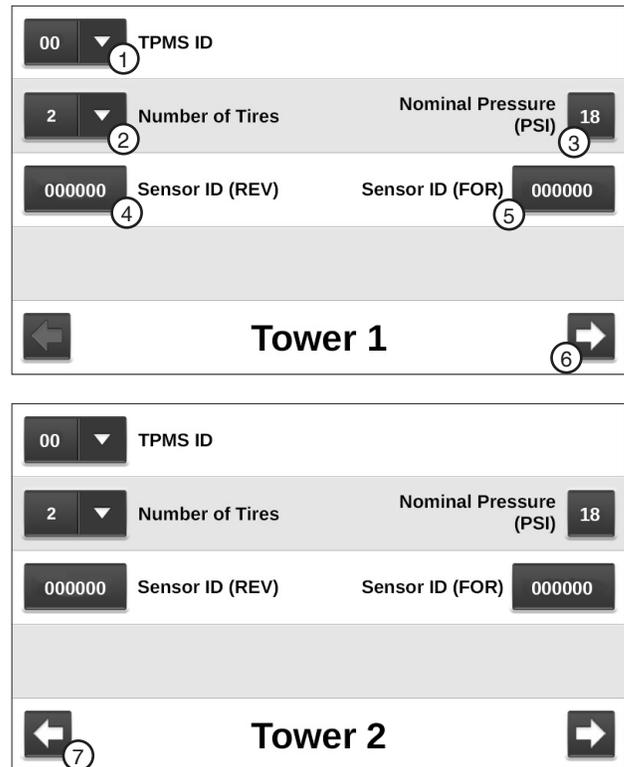

Figure 85-1 1. TPMS ID Drop-Down 5. Sensor ID (For)
The TPMS Sensor Setup screen is used to set the following sensors for any tower. Refer to Figure 85-1.
2. Select the tower number by scrolling through the towers using the **Next** and **Previous** buttons at the bottom of the TPMS Sensor screen. Tower 1 is the tower closest to the pivot point. The range is 1-16. Refer to Figure 85-1.
8. Select one of the **Sensor ID** fields. Refer to Figure 85-1.
- Three tires - Enter the reverse tire sensor ID, the mid (M) tire sensor ID and the forward tire sensor ID.
- Four tires - Enter the reverse tire sensor ID, the mid-reverse (MR) tire sensor ID, the mid-forward (MF) tire sensor ID and the forward tire sensor ID.